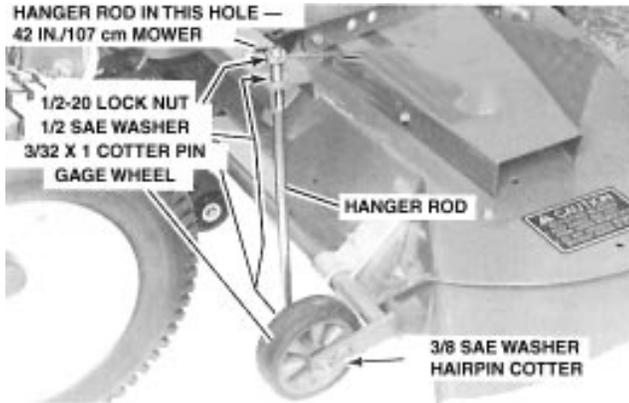

Figure 12
19. Slide a $\frac{3}{32}$ " x 1" cotter pin into the hole at the bend of one of the L-shaped hanger rods and slide a $\frac{1}{2}$ " washer on the rod in front of the cotter pin (Fig. 12).
20. Slide a gage wheel onto the hanger rod and push the end of the rod through the gage wheel arm (Fig. 12).
21. Secure the hanger rod to the gage wheel arm with a $\frac{3}{8}$ " washer and a 1- $\frac{7}{8}$ " hairpin cotter (Fig. 12).
22. Slide the top of the hanger rod through the appropriate hole in the pivot frame and secure it with a $\frac{1}{2}$ " washer and a $\frac{1}{2}$ "-20 locknut (Fig. 12).